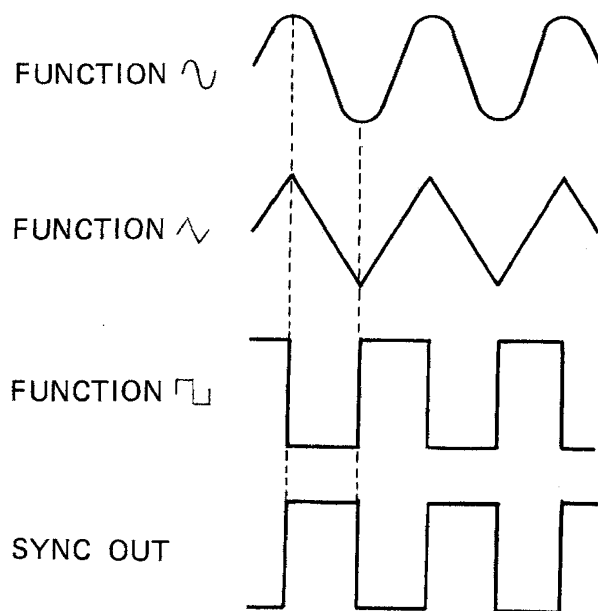

Fig. 5-3
A waveform selected by the FUNCTION switches is output to the OUTPUT (11) connector by using these settings. Fig. 5-3 shows the three different waveforms and their relationship with SYNC OUT waveforms in terms of time.